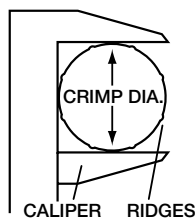

FIG. 2
- Measure halfway between the ends of crimped portion of the ferrule (Fig. 2).